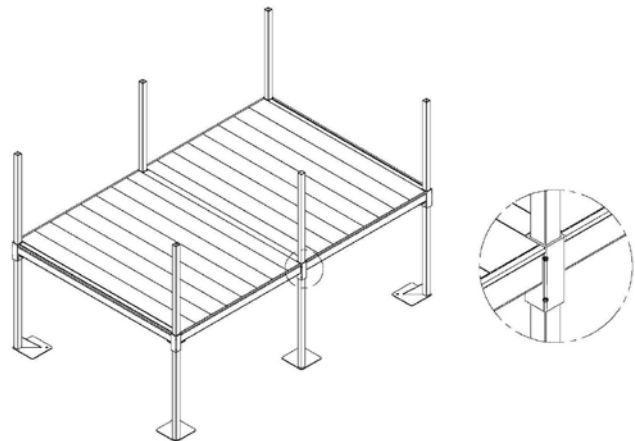

Fig. 1b (5x8 Platform)
- 1.3 For the two legs installed in the "center" pockets, **do not tighten the setscrews** until after the guard has been installed (Fig. 1b).